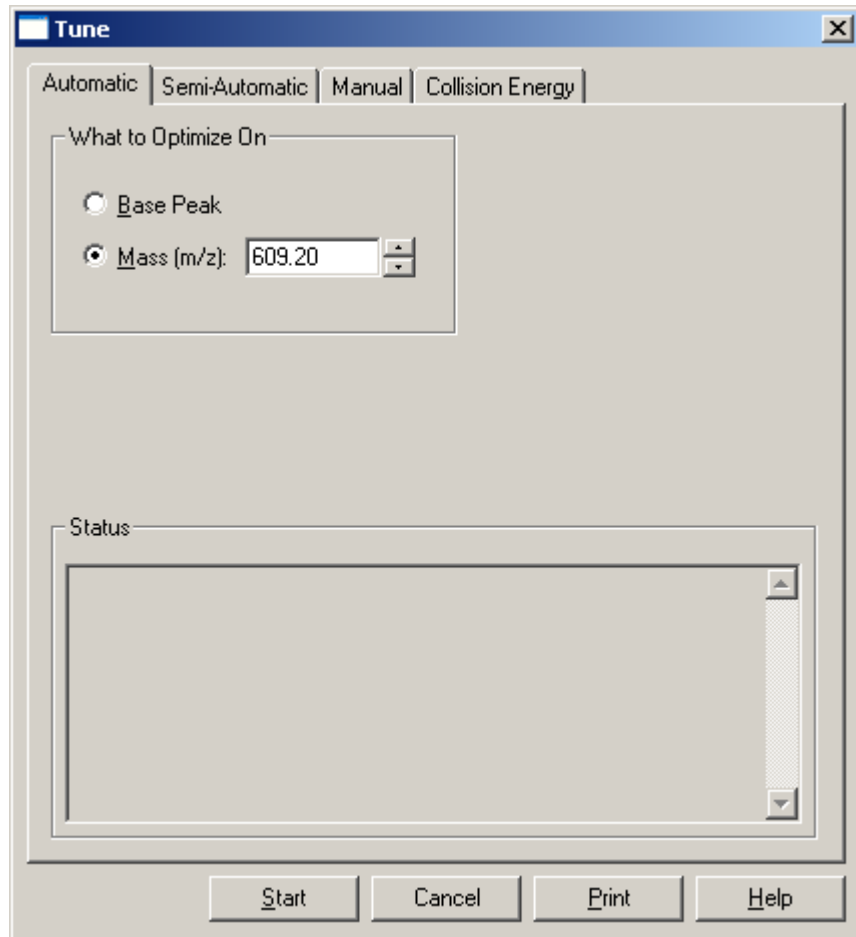

Figure 4-4. Tune dialog box, showing the Automatic tuning page
2. If necessary, click on the Automatic tab to display the Automatic tuning page. See Figure 4-4.